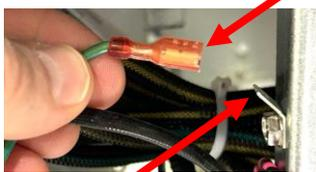

Figure 7
9. Use needle nose pliers to disconnect the ground wire (see Figure 7).